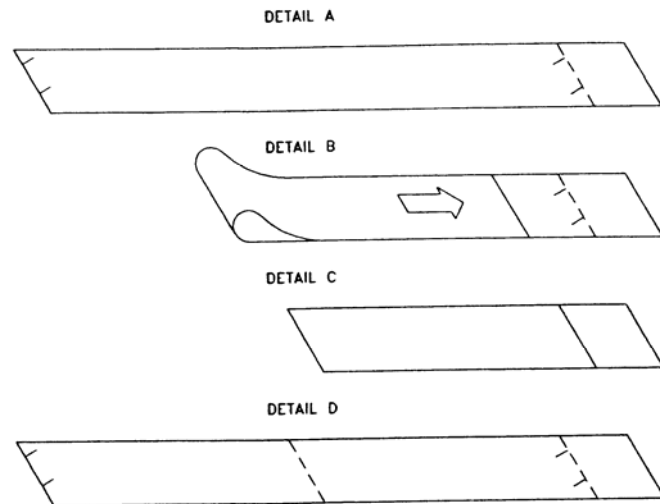

Figure 2.7 Bisecting the pipe circumference
2. Mark the intersection of the two ends of paper to indicate the circumference. Remove the template and spread it out on a flat surface. Fold template in half, bisecting the circumference. See **Figure 2.7**.